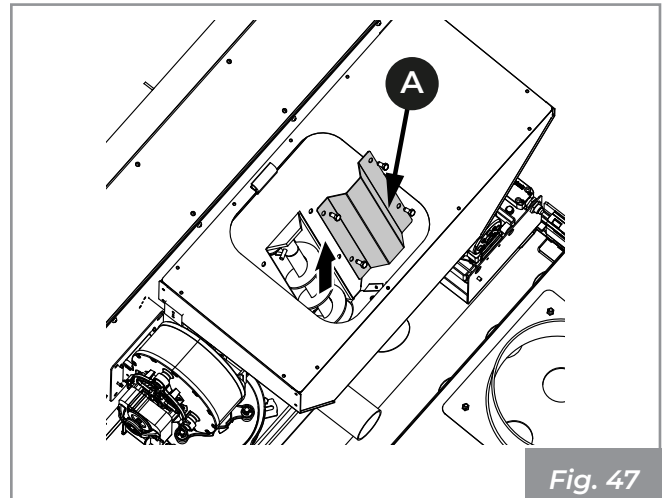

Fig. 47
If the feed pipe from the pellet tank to the combustion chamber is clogged, remove the inspection plate (A).( **Fig. 47** )